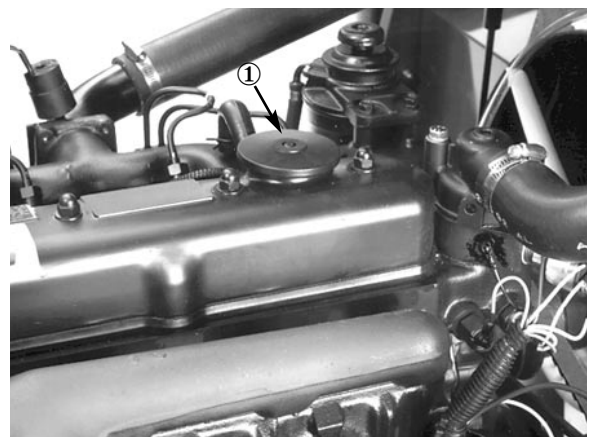

Figure 3
4. If the oil is below the FULL mark, remove the fill cap (Fig. 3) and add SAE 10W-30 oil until the level reaches the FULL mark. **DO NOT OVERFILL.** Crankcase capacity is 6.9 qt. (6.5 l) with the filter.